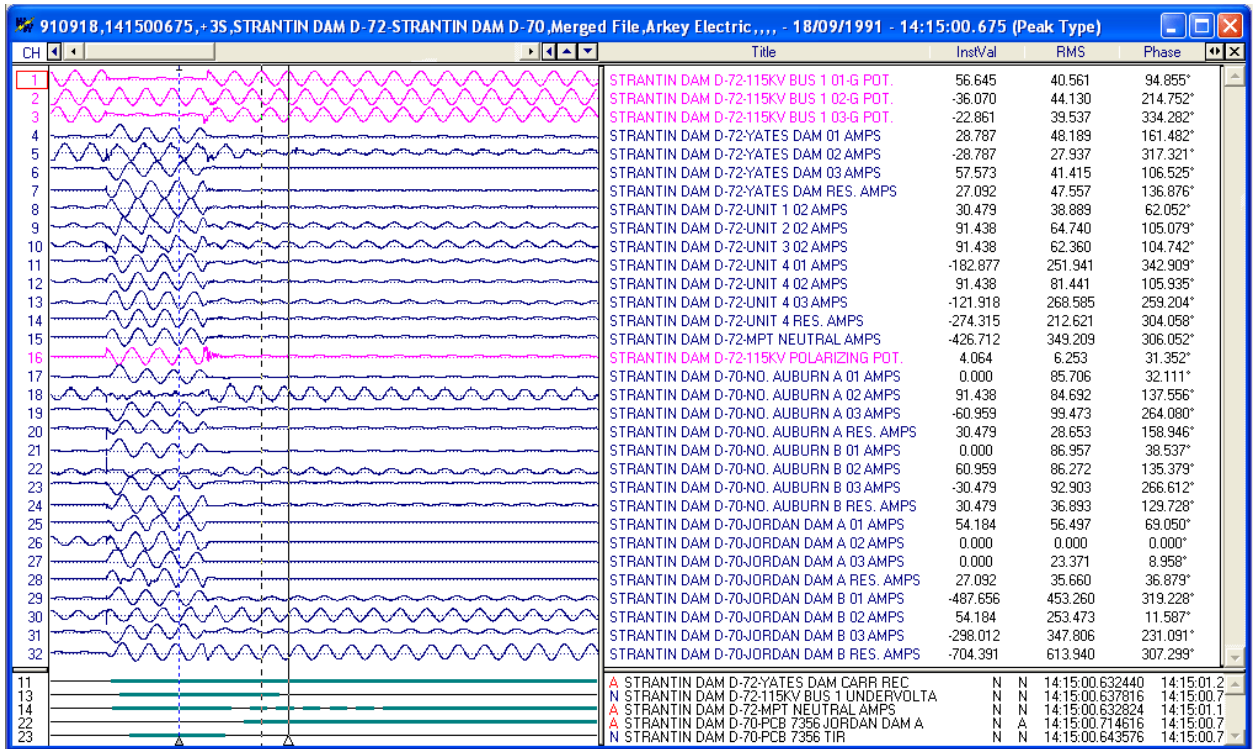

Figure 1.23 Merge Waveform Files By Time
- By Time: Merge channel samples if they have a common time segment. The reference time is from the file with the latest start date and time. The file with the least amount of samples determines the length of the new merged file. Refer to Figure 1.23.